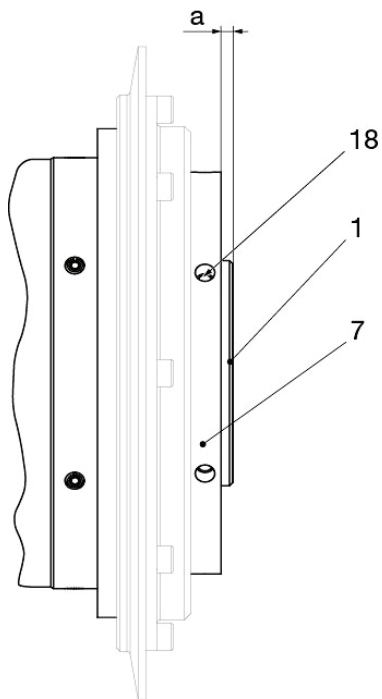

Fig. 17
- ❑ Check dimension "a" (distance between facing sides of adjusting nut (7) and hub overload-side (1) see Fig. 17)
The inspection dimension "a" (see Table „Technical Data“) can show deviations due to constructional tolerances or to clutch wear. After de-installation the clutch (e.g. due to cup spring replacement or changes to the cup spring layering), the clutch must be re-adjusted and calibrated using dimension "a" (see table in section 3.4 and Fig. 17).